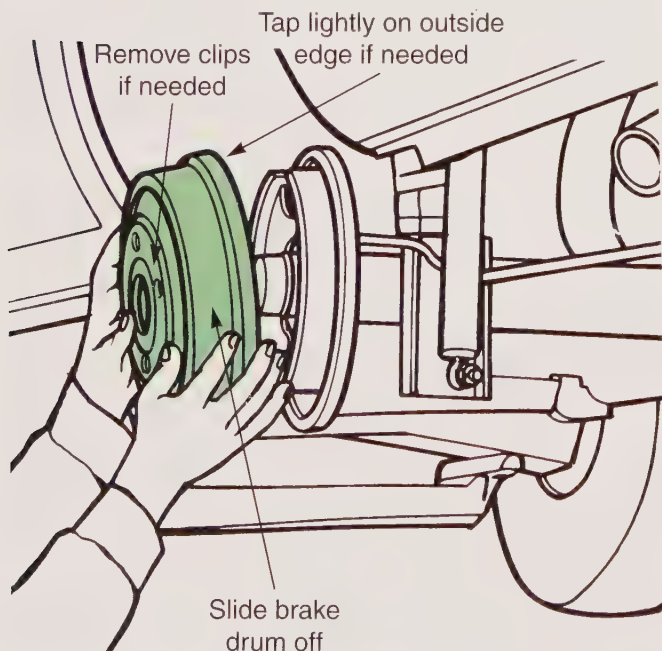

Figure 17-4. After removing the wheel, remove the brake drum. (Ford)
4. Mark the brake drum so that it can be reinstalled in the same position, and then remove the brake drum, **Figure 17-4**. If the axle has disc brakes, remove the calliper and rotor.